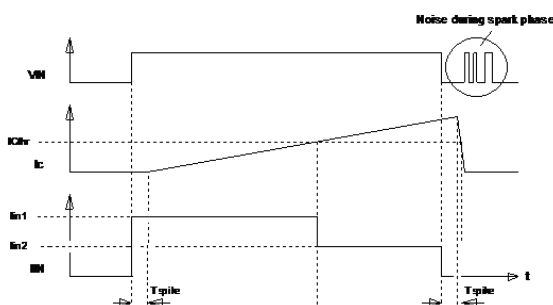

Figure 4: Bidirectional IN/IFL Diagnostic Pin
b) The IN/IFL pin sinks constantly a current of IIN1. When the input voltage is above VINH and the collector current exceeds the ICTHR threshold, the current flag is set by switching a current sink at the bidirectional IN/IFL pin to IIN2 (see Fig.4).